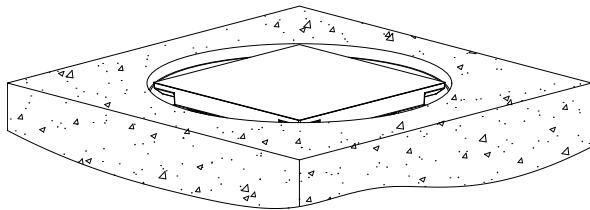

Fig. 9S
9. Turn head assembly clockwise until top of strainer is flush with the finish floor. See Fig. 9S